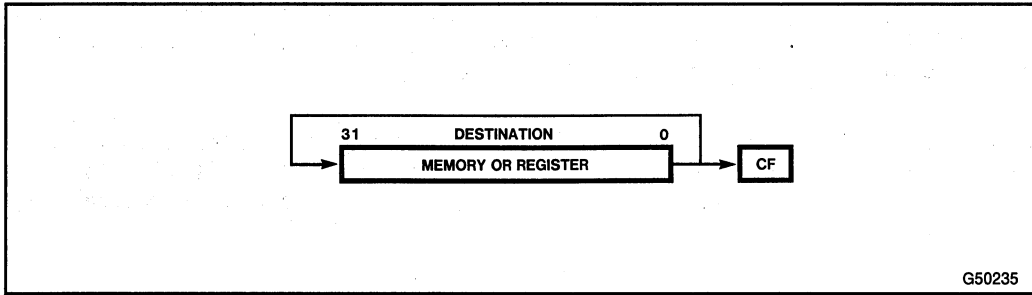

Figure 3-12. ROR Instruction
**ROR (Rotate Right)** rotates the byte, word, or doubleword destination operand right by one bit position or by the number of bits specified in the count operand (an immediate value or a value contained in the CL register). For each bit position of the rotation, the bit that exits from the right of the operand returns at the left. See Figure 3-12.